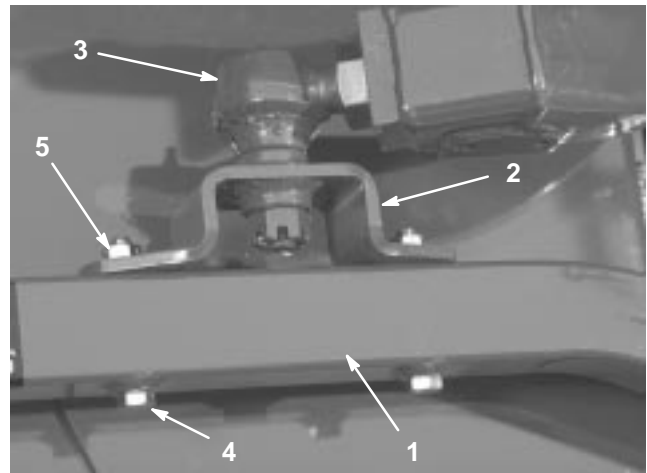

**Figure 4**
2. Measure the distance from the end of each lift arm to the center of the ball joint (grease fitting). The distance should be 2-1/4 in. (57 mm) (Fig. 4). If distance is not 2-1/4 in. (57 mm), loosen the jam nut securing the ball joint to the lift arm and rotate the ball joint in or out until the distance is attained. Do not tighten the jam nuts at this time.